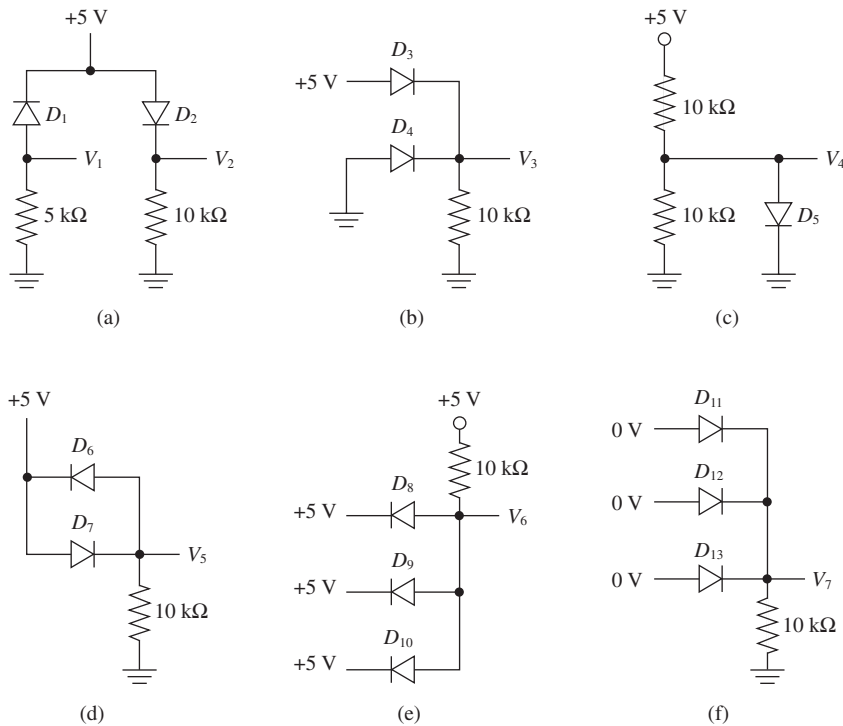

Figure P2-6
- 2-6. Determine if the diodes in Figure P2-6 are reverse or forward biased.
C 2-7. Determine V_1 , V_2 , V_3 , V_4 , V_5 , V_6 , and V_7 in the circuits of Figure P2-6.
2-8. In Figure P2-6, if the cathode of any one of the diodes D_8 , D_9 , or D_{10} is connected to 0 V instead of +5 V, what happens to V_6 ?
2-9. In Figure P2-6, if the anode of any of the diodes D_{11} , D_{12} , or D_{13} is connected to +5 V instead of 0 V, what happens to V_7 ?